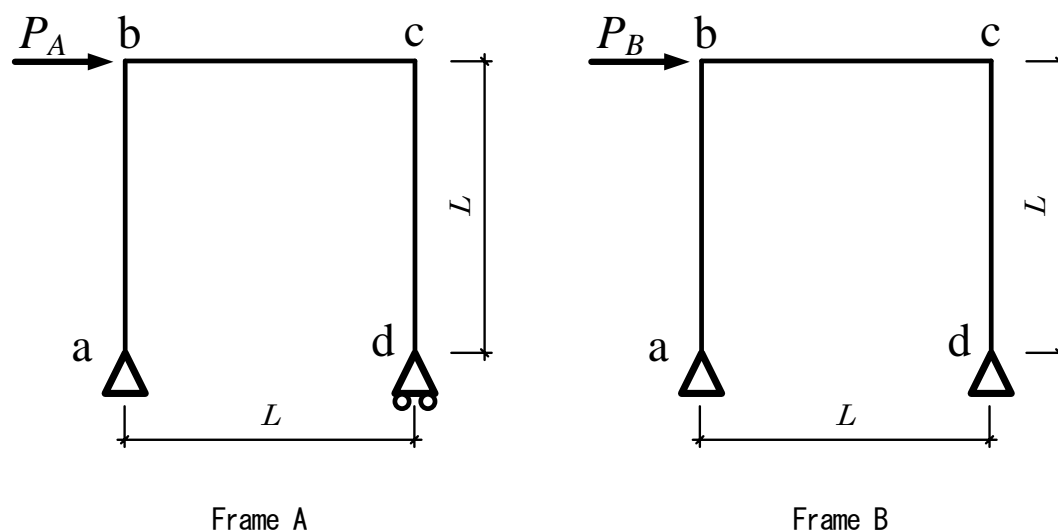

Fig. 1-1
Here are two frames of which span length and height are both L and the lateral force acts at point b, as shown in the Fig. 1-1. The difference between the frames is the supporting condition at point d, where the lateral displacement is not constrained for Frame A and constrained for Frame B. Answer the following questions from (1) to (5) on the effect of the difference in constraints at point d to the structural behavior of frames.